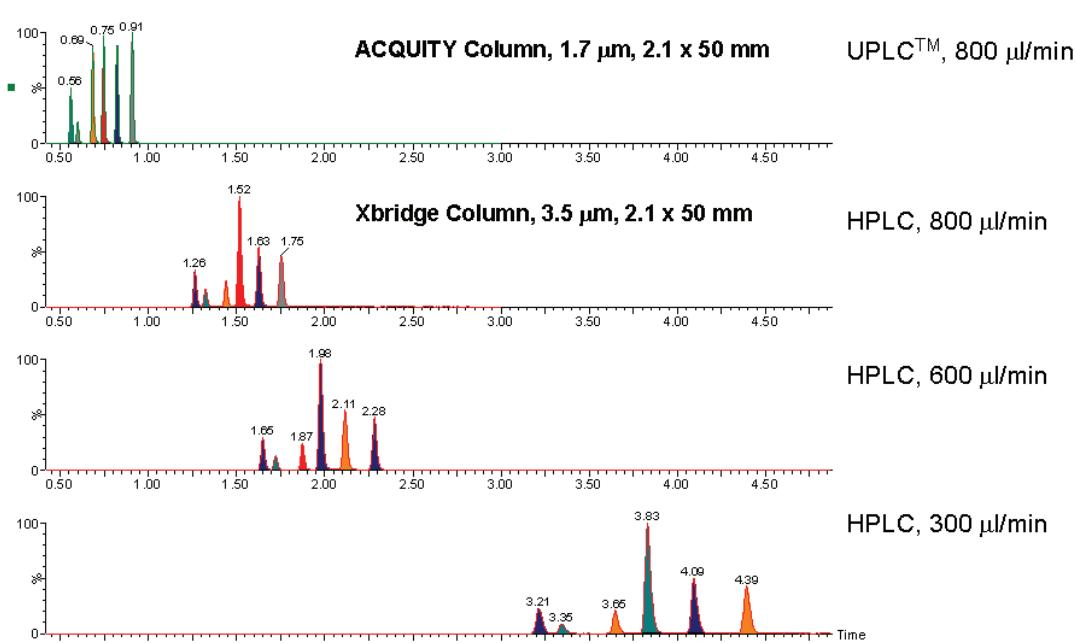

Figure 1. Comparison of UPLC vs. HPLC (at different flow rates) for the detection and separation of the hydroxylated metabolites of Buspirone.
The heart of UPLCTM is in the use of sub 2  $\mu$ m particle sizes and the ability to sustain elevated pressures in the order of 10,000 -12,000 psi. To investigate this we have employed an Ultra Performance Liquid Chromatography system (UPLCTM) (Figure 1) and an HPLC system to compare the difference between these two technologies when coupled with a TOF-MS and triple quadrupole mass spectrometer for metabolism studies. In order to show the potential of this particular approach, we will be showing a number of analytical runs in which we compare different in vitro incubations for Buspirone and Midazolam.
- Figure 1 shows the results of the same sample analyzed by UPLC and HPLC (3 different flow rates also compared).